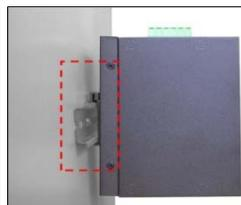

Figure 5
- Lightly pull down the bracket on to the rail as shown below in Figure 5.